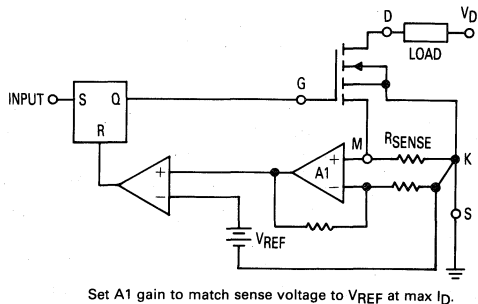

Figure 16. Typical Current Sensing with a SENSEFET
- **Ground Loop Errors:** Lossless current sensing is a technique that looks for 100 mV signals in a loop that may carry tens or even hundreds of amps. The potential for ground loop error in this kind of situation is a first order design consideration. In particular, current flowing from the SENSEFET's source into a non-zero ground impedance can easily create voltage drops which are significant with respect to SENSEFET signal levels. Here again, the Kelvin connection is a useful tool. Tying the current limit circuitry's voltage reference to the Kelvin terminal as shown in Figure 16 eliminates errors that can be developed by high currents flowing in a power ground.